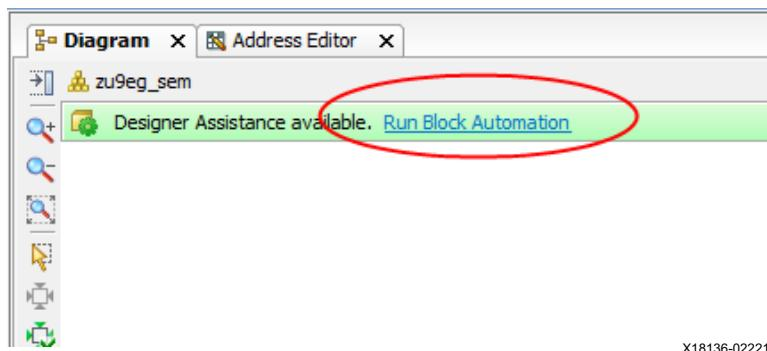

Figure 5: Design 1 - Run Block Automation
- Select **Run Block Automation**. See Figure 5.